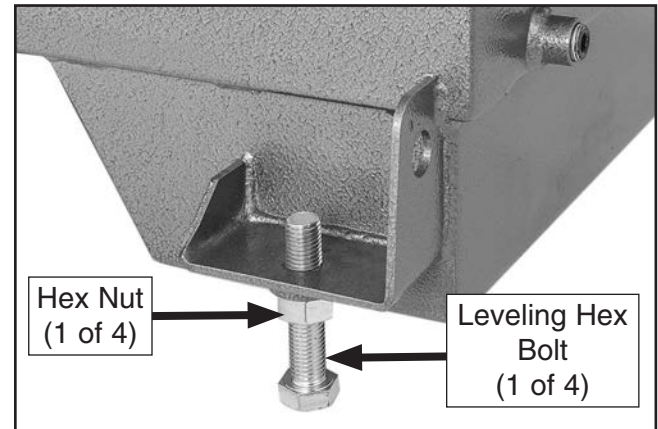

Figure 11. Leveling bolt threaded into frame.
5. Install each of (4) M16-2 x 75 leveling hex bolts with (1) M16-2 hex nut into each of the (4) mounting holes in frame, as shown in **Figure 11**.